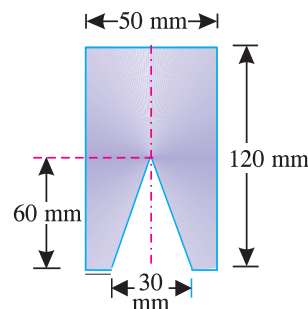

**Fig. 6.32.**
2. Find the centre of gravity of a semicircular section having outer and inner diameters of 200 mm and 160 mm respectively as shown in Fig. 6.32.     **[Ans. 57.5 mm from the base]**